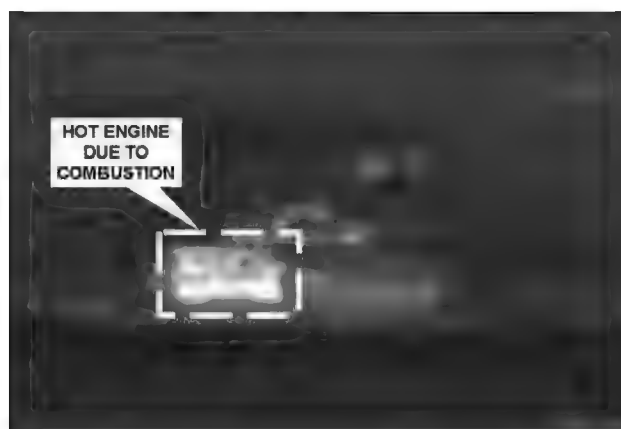

Figure E-3. Heat caused by combustion.
(2) **Combustion** (Figure E-3). Combustion means there is heat produced by a slow (such as a bonfire) or very quick (such as a controlled explosion) burning. Vehicle engines generate heat due to combustion.